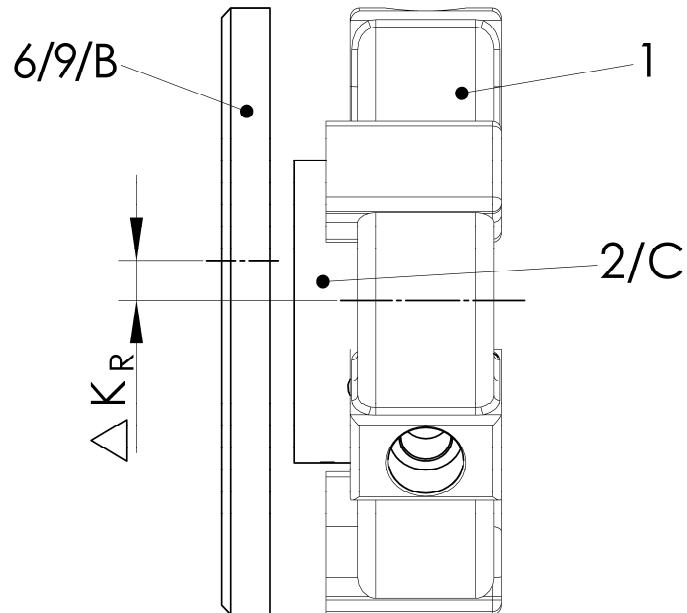

Fig. 5-2 Radial alignment
- Determine the radial misalignment (see Fig 5-2).